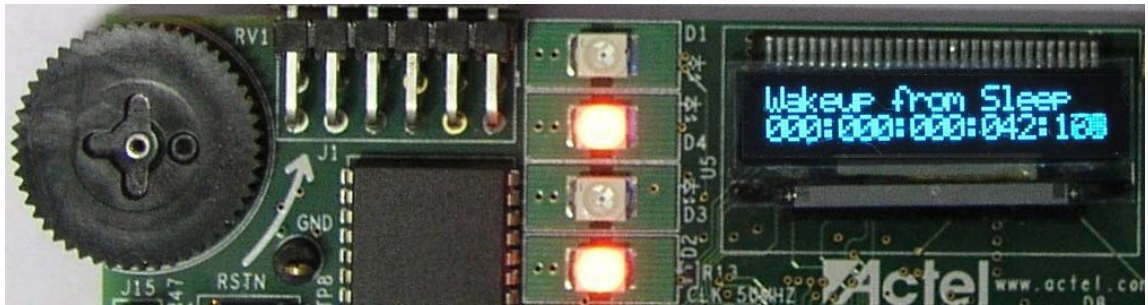

Figure 2-35 · Wakeup from Sleep Mode
5. Press the PUB button to wake up the device. The RTC in the FPGA device continuously increments in sleep/wakeup. Upon wakeup you will see incrementing counts on the OLED (Figure 2-35).